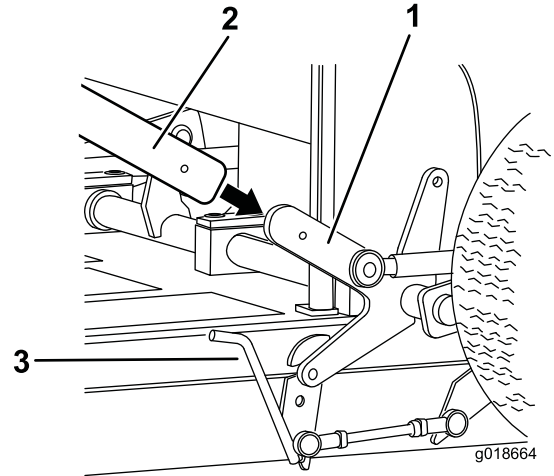

Figure 9
1. Clean around fuel tank cap and remove cap from tank (Figure 9). Using unleaded (87 pump octane minimum) gasoline, fill the fuel tank to approximately 25 mm (1 inch) below the top of the tank to allow for fuel expansion.
- B. Slide the bar onto the tab on the left hand side of the lifting arm assembly and secure it with a lynch pin (Figure 9).